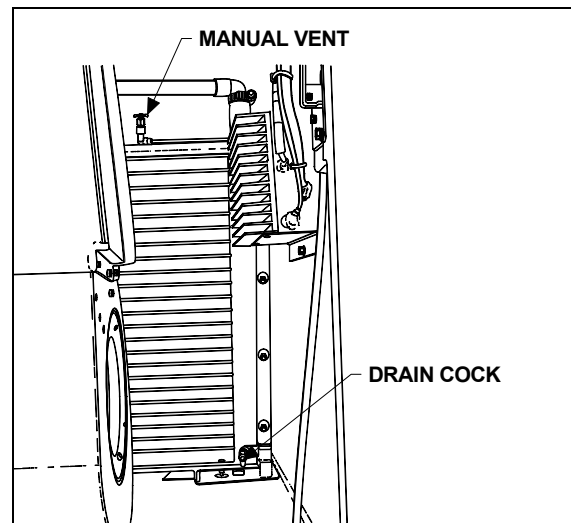

FIGURE 44: EVAPORATOR COMPARTMENT
4. Open drain cock in bottom of heater core, then open manual vent located on top of heater core (Fig. 44) in order to allow air to enter while draining.